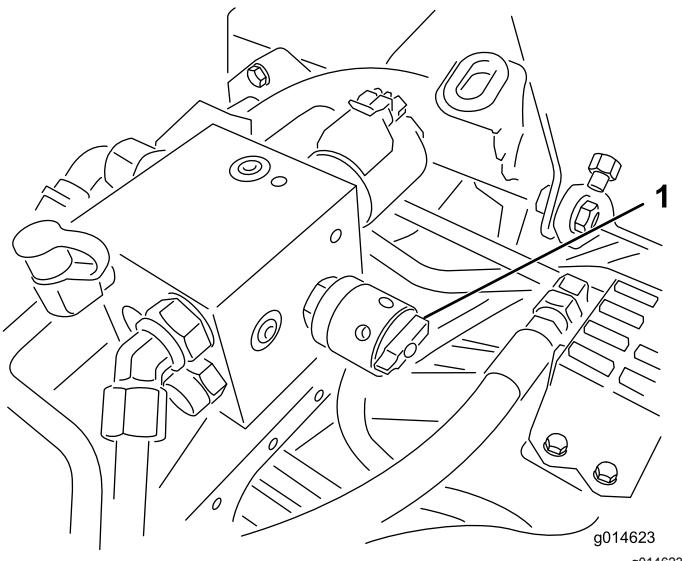

Figure 53
4. Adjust the reel speed by rotating the knob (Figure 53) until the indicator arrows are in line with the number you determined in step 3.
6. Rotate the reel-speed control to setting 1 (Figure 53).